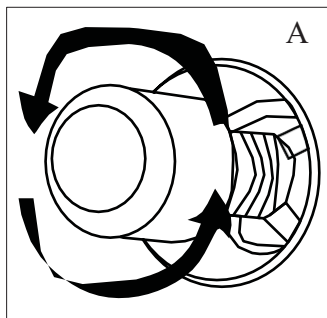
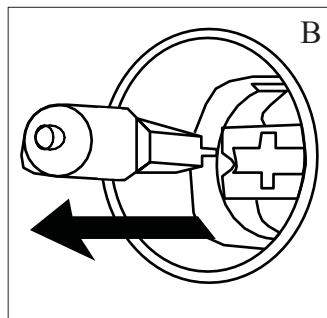

Figure 20
Figure 21
3. Then remove the oven lamp by turning it (see figure 20) if it is type “A”, or by pulling it (see figure 21) if it is type “B”.